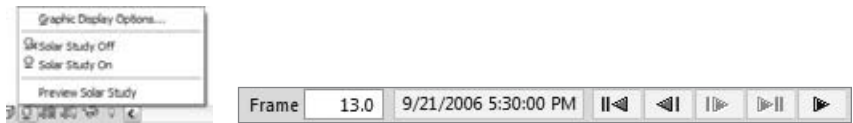

Figure 8.29
5. Once you've set up a Multi-day study, a new option appears on the View Control bar to preview the animation (see Figure 8.29). Click Preview Solar Study to activate animation controls in the Options bar.